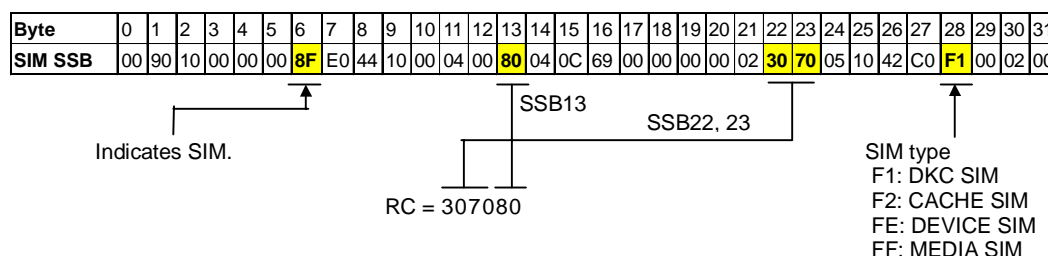

Figure D.1 Typical 9900 SIM Showing Reference Code and SIM Type
Figure D.1 shows a typical 32-byte SIM from the 9900 subsystem. SIMs are displayed on the host console by reference code (RC) and severity. The six-digit RC (composed of bytes 22, 23, and 13) identifies the possible error and determines the severity. The SIM type (byte 28) indicates the component which experienced the error. When byte 22 = 21, the SIM is a control unit SIM. When byte 22 = Dx, the SIM is a device SIM. When byte 22 = (D5-D7, DB), the specified pair is HARC. When byte 22 = (D8 - DC), the pair is HRC Synchronous. The SIM reference codes DB6x, DB7x, and DB8x indicate a HARC pair suspended by the RCU.